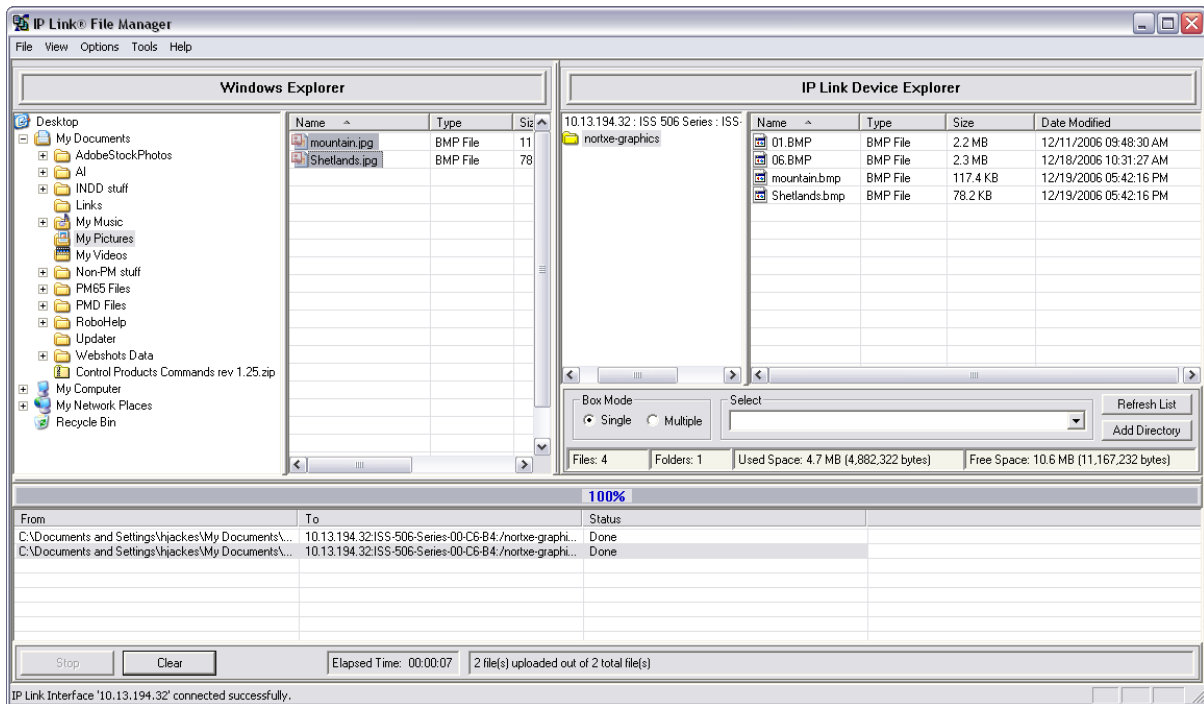

Figure 5-23 — IP Link File Manager program window
4. The IP Link File Manager program window appears (figure 5-23). The window contains two major sections.